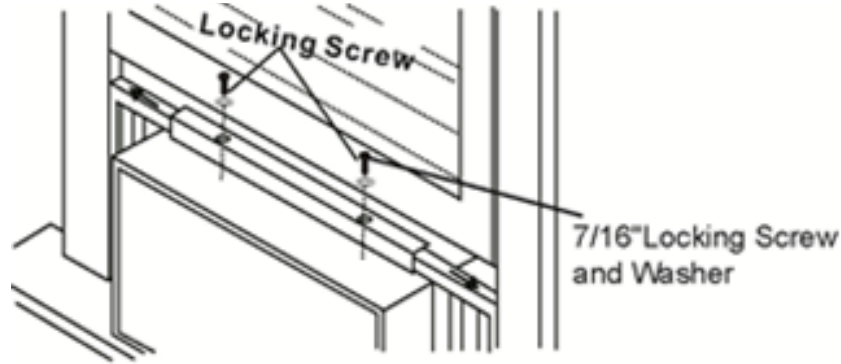

Fig.12
2. Extend the panels to fill the window opening completely. Tighten the locking screws on top. (Figure 12)